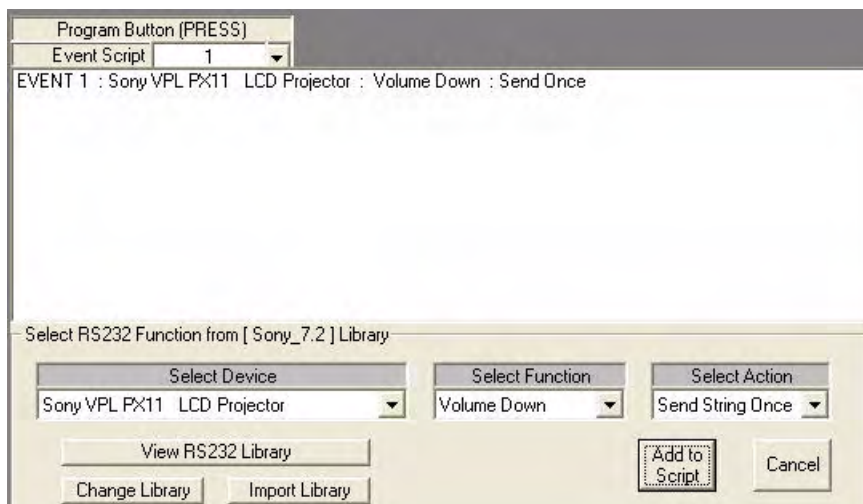

FIG. 76 Button 1 - Add Sony VPL PX11 LCD Projector "Volume Down" Command to Script
11. Choose the "Volume Down" command (in the *Select Function* drop-down menu) and click **Add To Script** to add it to the Event Script (FIG. 76):